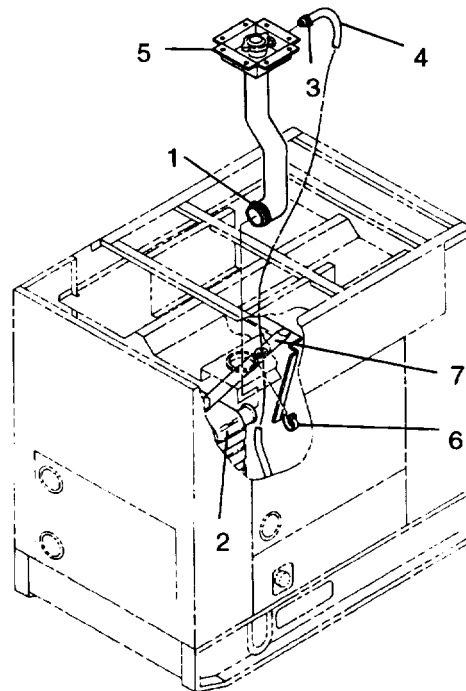

FIGURE 3-3. Filler Hose and Panel Assembly
- g. Loosen clamp (1, FIGURE 3-3) at radiator (2), and disconnect filler hose and panel assembly (5) from radiator.
- h. Loosen clamp (3) and disconnect overflow hose (4) from filler hose and panel assembly (5).